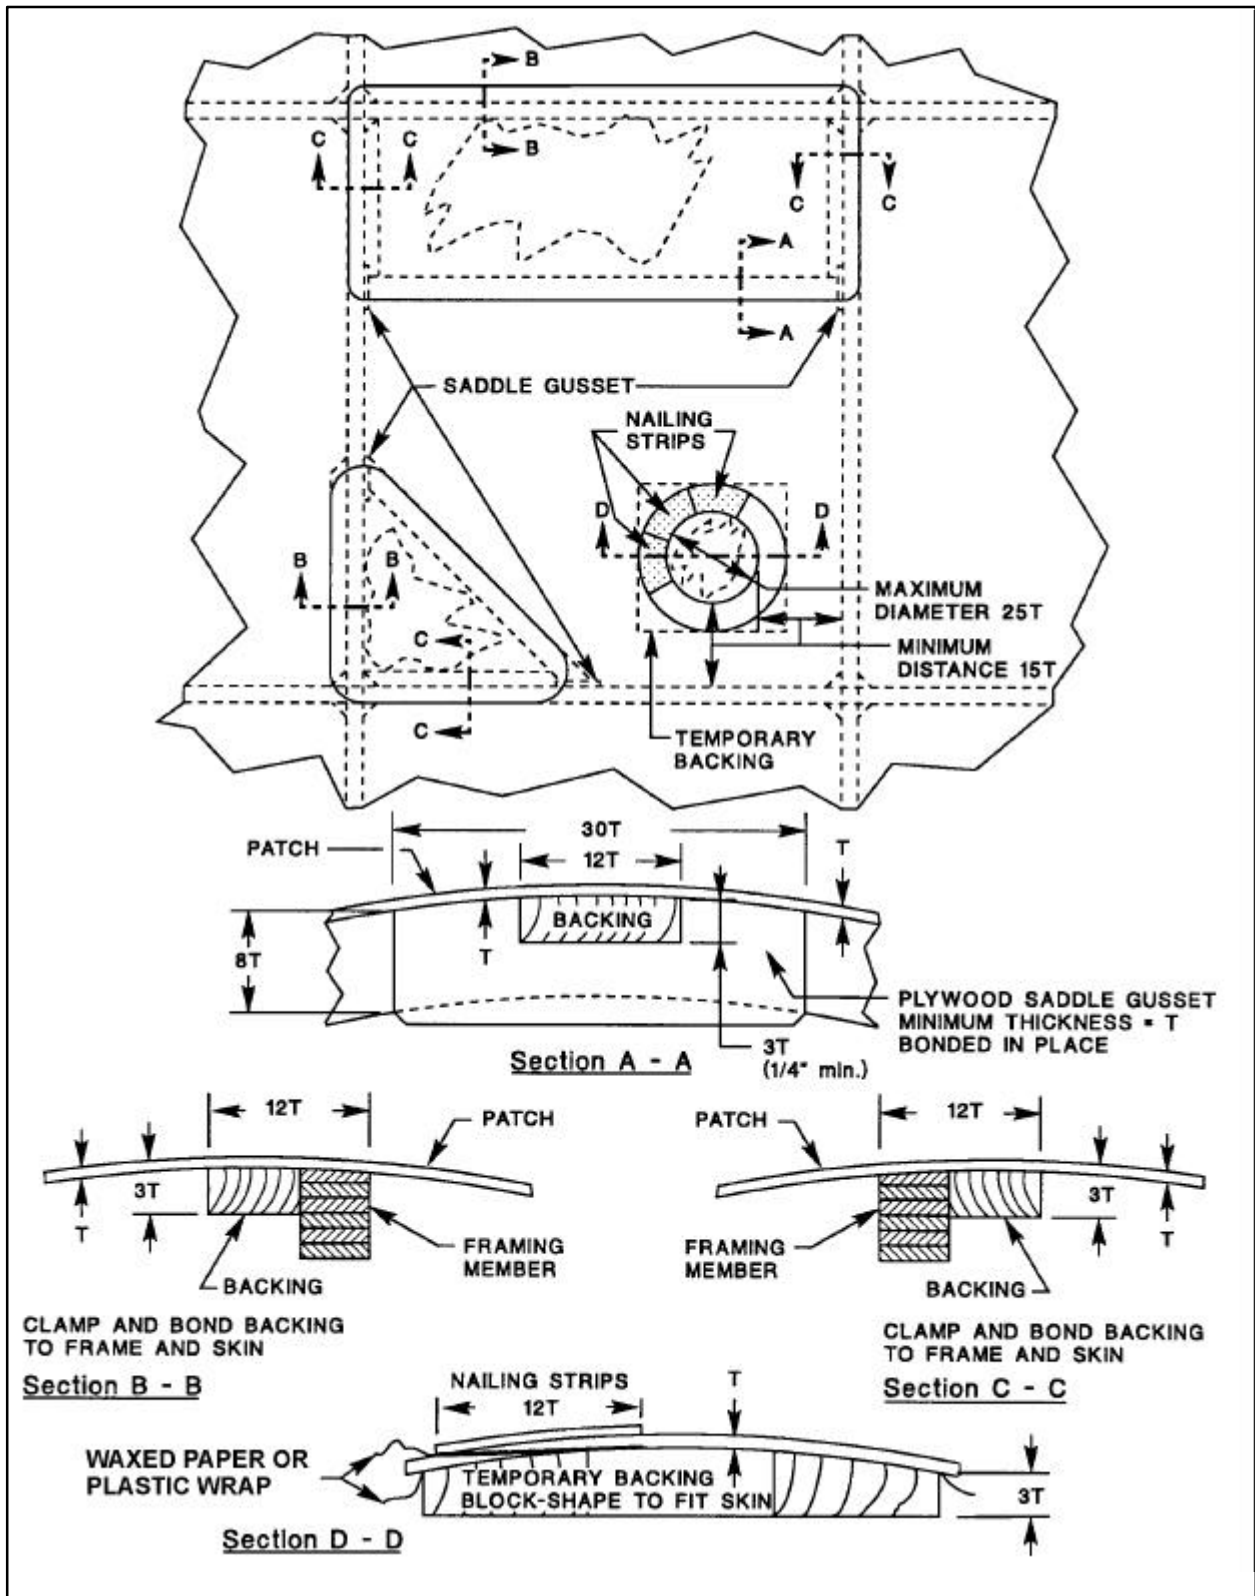
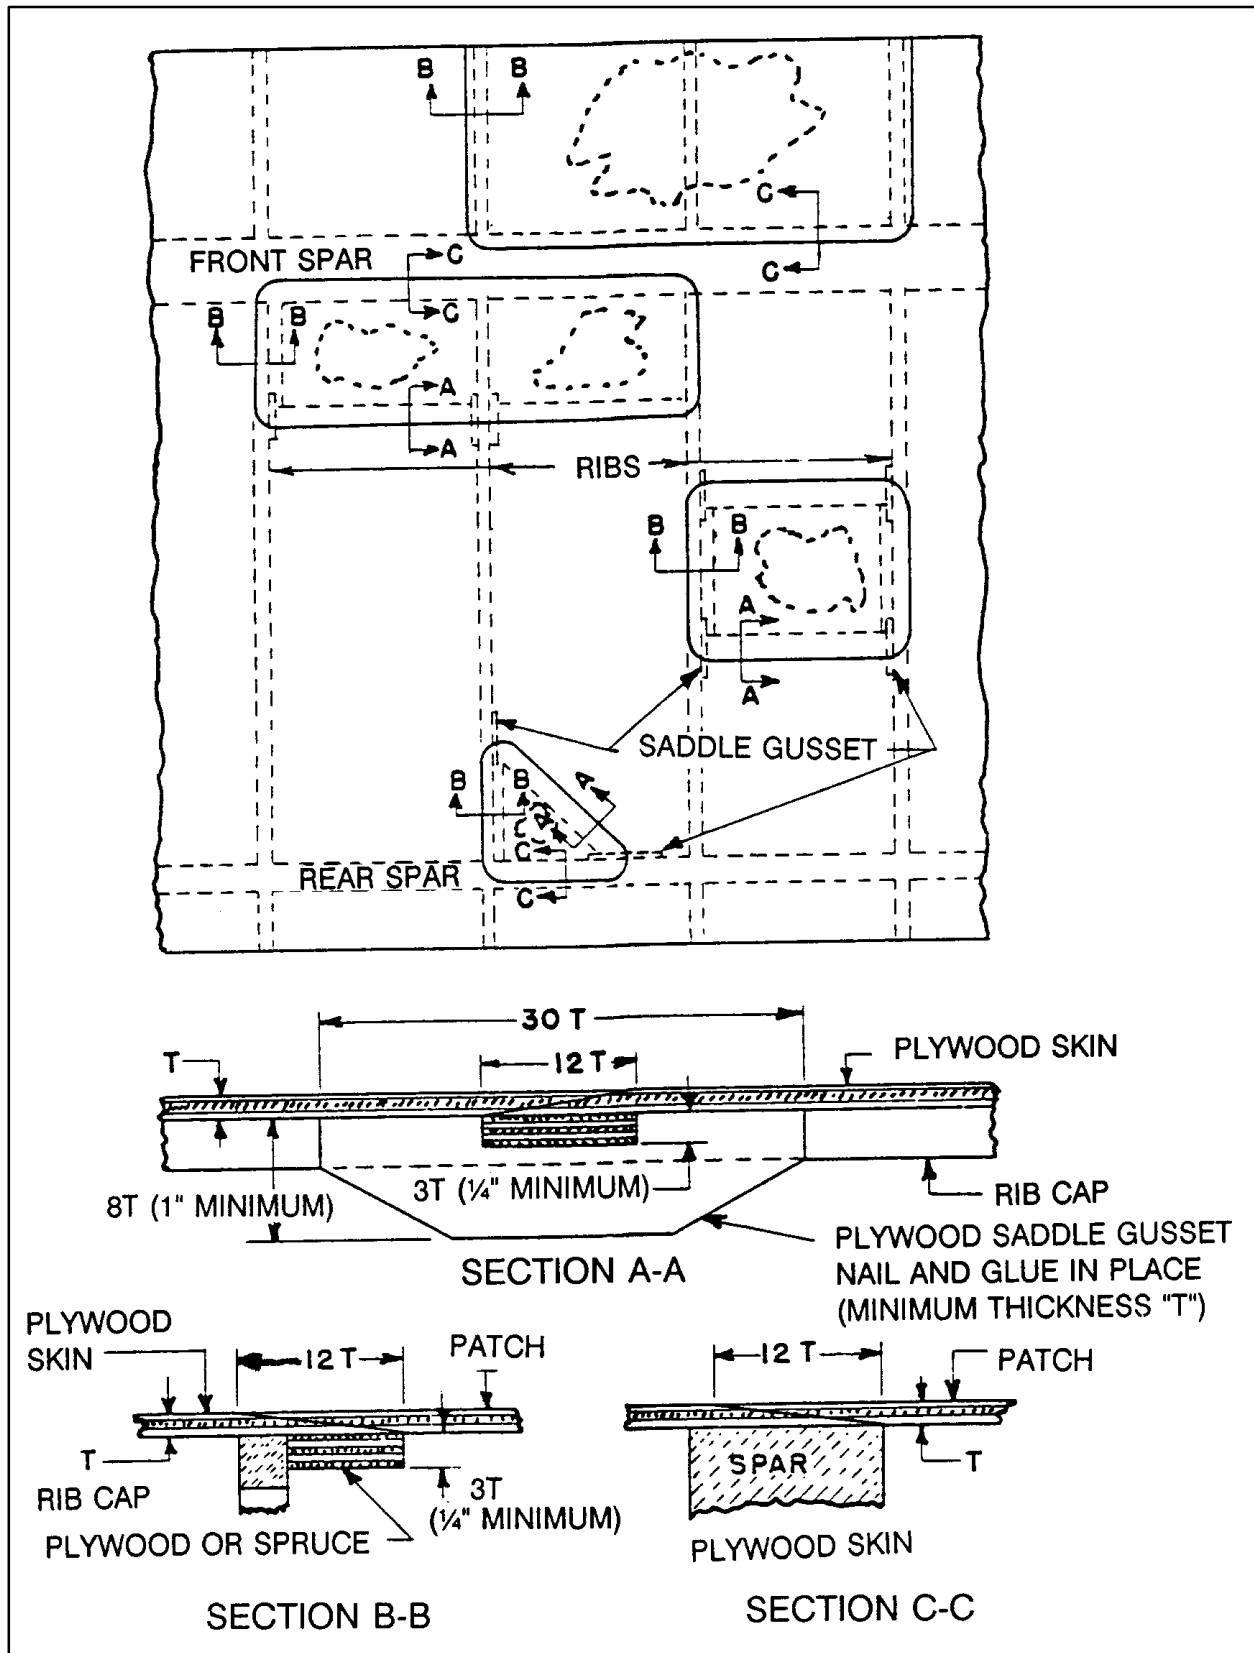

FIGURE 1-15. Scarf patches (back of skin accessible).
FIGURE 1-16. Scarf patches (back of skin not accessible).
c. Scarf Patch. A properly prepared and inserted scarf patch is the best repair for damaged plywood skins and is preferred for most skin repairs. Figure 1-15 shows the details and dimensions to be used when installing typical scarf skin patches, when the back of the skin is accessible. Follow figure 1-16 when the back of the skin is not accessible. The scarf slope of 1 in 12, shown in both figures, is the steepest slope permitted for all kinds of plywood. If
(1) Scarf cuts in plywood may be made by hand plane, spoke shave, scraper, or accurate sandpaper block. Rased surfaces, except at the corners of scarf patches and sawn surfaces, are not recommended as they are likely to be rough or inaccurate.
(2) Nail strip or small screw clamping is often the only method available for bonding scarf joints in plywood skin repairs. It is essential that all scarf joints in plywood be backed with plywood or solid wood to provide adequate nail holding capacity. The face-grain direction of the plywood patch must be the same as that of the original skin.
(3) If the back of a damaged plywood skin is accessible (such as a fuselage skin), it should be repaired with a scarf patch, following the details shown in figure 1-15. Whenever possible, the edges of the patch should be supported as shown in section C-C of figure 1-15. When the damage follows or extends to a framing member, the scarf may be supported as shown in section B-B of figure 1-15. Damages that do not exceed 25 times the skin thickness in diameter after being trimmed to a circular shape and are not less than 15 times the skin thickness to a framing member, may be repaired as shown in figure 1-15, section D-D.
(a) After removing damaged sections, install backing strips, as shown in figure 1-16, along all edges that are not fully backed by a rib or a spar. To prevent warping of the skin, backing strips should be made of a soft-textured plywood, such as yellow poplar or spruce rather than solid wood. All junctions between backing strips and ribs or spars should have the end of the backing strip supported by a saddle gusset of plywood.